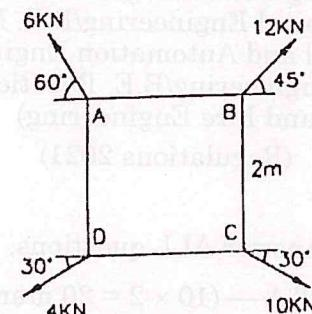

fig Q 12(a)
12. (a) Four forces of magnitude and direction acting on a square ABCD of side 2m are shown in fig Q 12(a). Calculate the resultant in magnitude and direction and also locate its point of application with respect to the sides AB and AD.